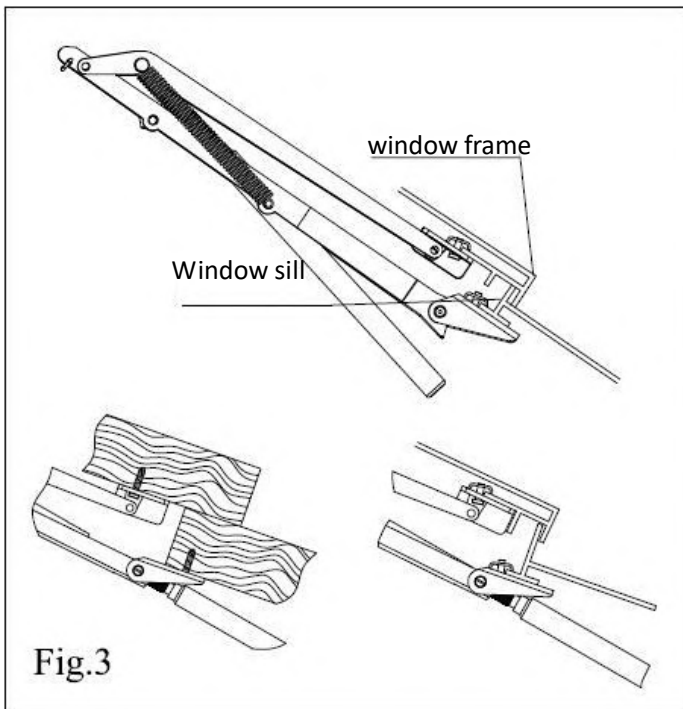

Fig.3
2. Loosely fit a clamp(11) to the window bracket(10) using two of the screws supplied. See fig.2. On greenhouses the brackets can be screwed directly on to the framework. See fig.3.
3. Choose the most suitable pair of holes and loosely fit the other clamp to the frame brackets(9). Ensure that the upper edge of the frame bracket is as close to the edge of the window frame as possible. See example in fig.3.